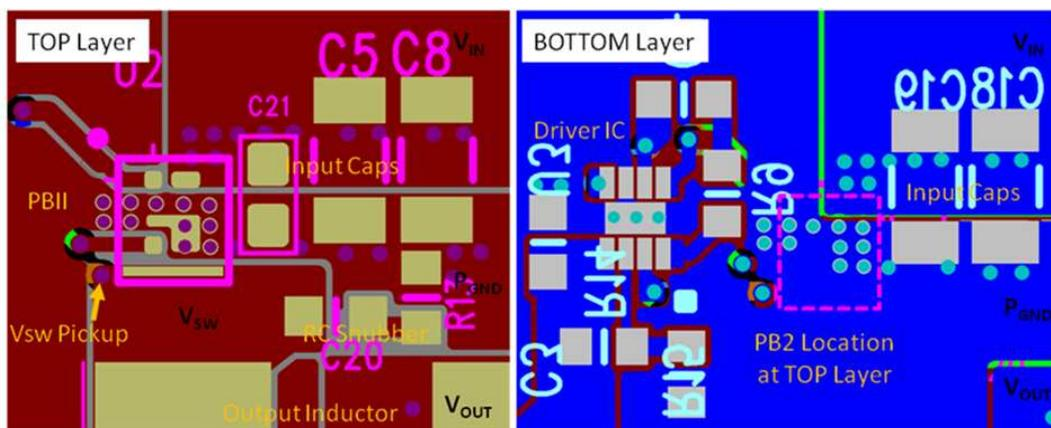

Figure 29. Recommended PCB Layout (Top Down View)
- The placement of the input capacitors relative to VIN and PGND pins of CSD87381P device should have the highest priority during the component placement routine. It is critical to minimize these node lengths. As such, ceramic input capacitors need to be placed as close as possible to the VIN and PGND pins (see Figure 29). The example in Figure 29 uses 1 x 10 nF 0402 25 V and 4 x 10 μF 1206 25 V ceramic capacitors (TDK part number C3216X5R1C106KT or equivalent). Notice there are ceramic capacitors on both sides of the board with an appropriate amount of vias interconnecting both layers. In terms of priority of placement next to the power stage, C21, C5, C8, C19, and C18 should follow in order.
- The switching node of the output inductor should be placed relatively close to the Power Block II CSD87381P VSW pins. Minimizing the VSW node length between these two components will reduce the PCB conduction losses and actually reduce the switching noise level. See Figure 29. (1)
- Use the smallest drill size allowed in your design. The example in Figure 29 uses vias with a 10 mil drill hole and a 16 mil capture pad.